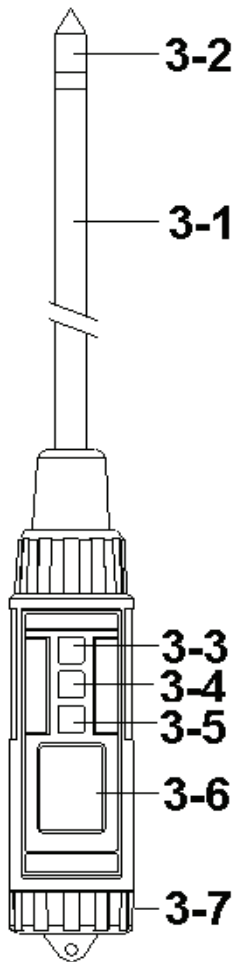

Fig. 1
( 3-3, Fig. 1 ) momentarily.
*\* Press the " Power Button " ( 3-3, Fig. 1 )
2) Insert the " Moisture sensing head " ( 3-2, Fig. 1 ) into
- \* During the measurement, press the " Hold Button " ( 3-4, Fig. 1 ) momentarily to hold the measured value. The LCD will show a " HOLD " symbol.
- 1) The data record function records the maximum and minimum readings. Press the " REC Button " ( 3-5, Fig. 1 ) momentarily to start the Data Record function, shows " REC " on the display.
- a) Press the " REC Button " ( 3-5, Fig. 1 ) momentarily, the " REC MAX " symbol along with the maximum value will appear on the display.
- b) Press the " REC Button " ( 3-5, Fig. 1 ) momentarily again, the " REC MIN " symbol along with the minimum value will appear on the display.
- \* When display shows " REC MAX " or " REC MIN ", press the " Hold Button " ( 3-4, Fig. 1 ) momentarily will delete the max. ( min. ) value, the display will show the " REC. " only and execute the memory function continuously.*
- \* To change the batteries, open ( rotate clockwise direction ) the " Battery Cover " ( 3-7, Fig. 1 ).
- \* Make sure the " Battery cover " (3-7, Fig 1) is secured after changing the batteries.